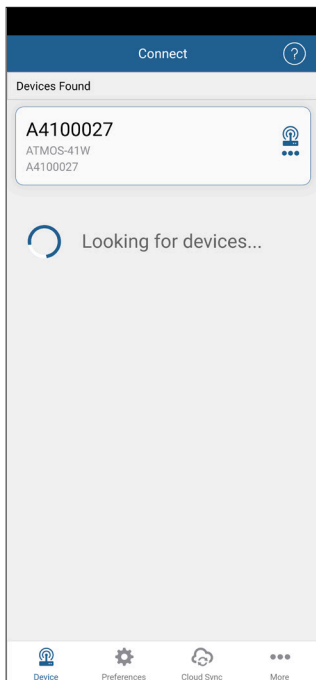

Figure 1 Devices Found window
2. Look for the ATMOS 41W in the **Devices Found** window (Figure 1).